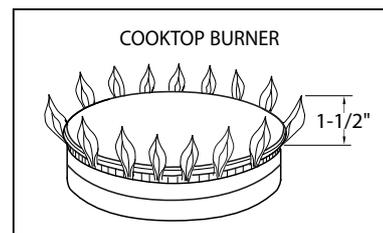

FIG. 13
*No air shutter adjustment is possible on the cooktop burners. Burner flames should be blue and stable with no yellow-tipping (some yellow-tipping is normal with LP gas), excessive noise, or lifting of flame from the burner (Fig. 13).*